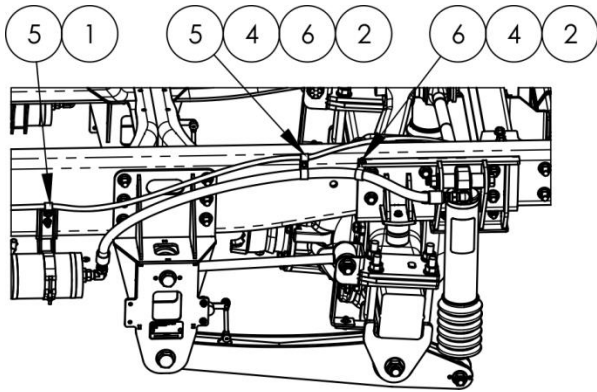

Figure 23. Driver side outboard hose routing.
12. Secure hose with clamps as shown in Figure 23. Drill attaching Ø3/8" holes as necessary.